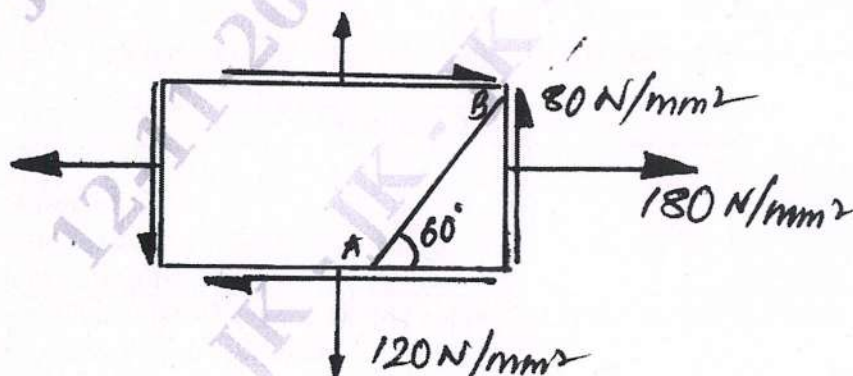

Fig.Q10(b)
- b. The state of stress at a point in strained material is as shown in Fig.Q10(b). Determine :